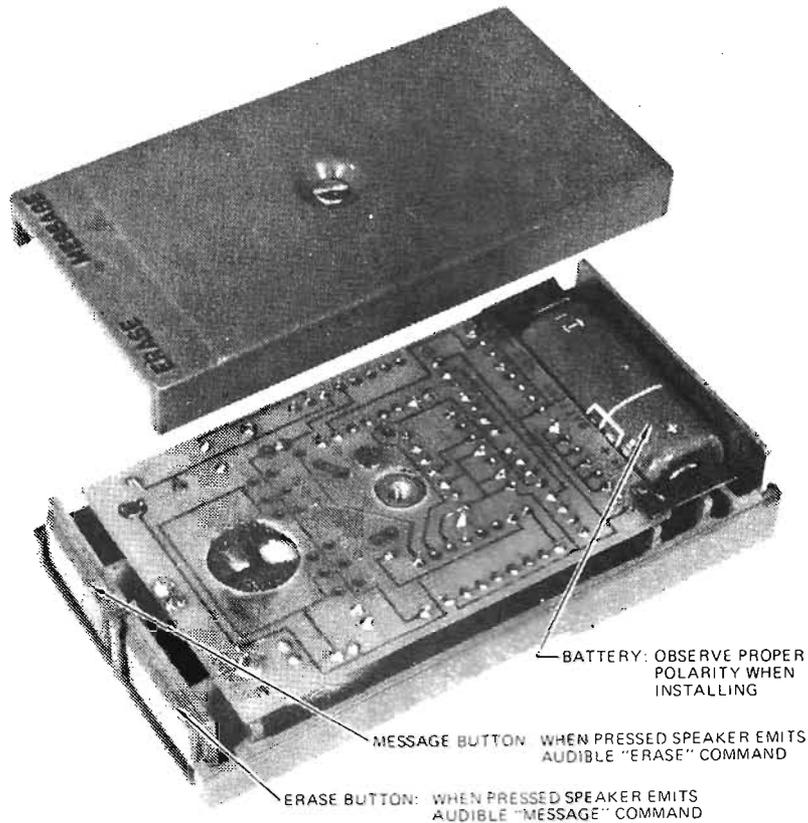

Fig. 7—Pocket Code, Model 1000
5.01 The Remote AutoMatic TelePhone incorporates all of the standard features of The AutoMatic TelePhone. In addition, The Remote AutoMatic TelePhone allows a distant caller to receive recorded messages over a telephone line. The caller activates The Remote AutoMatic TelePhone with two specially coded commands (“message” and “erase”) from a hand-held transmitter, the Model 1000 PC Pocket Coder (Fig. 7). After receiving the recorded messages over the telephone line, the caller may either erase the messages or leave them intact and record new messages.
6.01 To check the operation of the Pocket Coder, press the MESSAGE and ERASE buttons (see Fig. 7) and verify that both cause a command tone to be audible at the speaker. The Pocket Coder is powered by a 15-volt battery (Eveready No. 504 or equivalent). Normal battery life is one year and replacement is the customers responsibility.